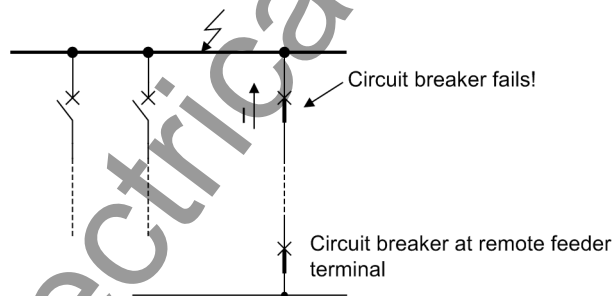

Figure 5-25 Circuit breaker failure during a busbar fault
Continuation for (3) and (4) see Figure 5-25, page 124
Circuit Breaker failure can occur during a busbar short-circuit, too. In this case, the current must be interrupted from the remote end (Figure 5-25, page 124).